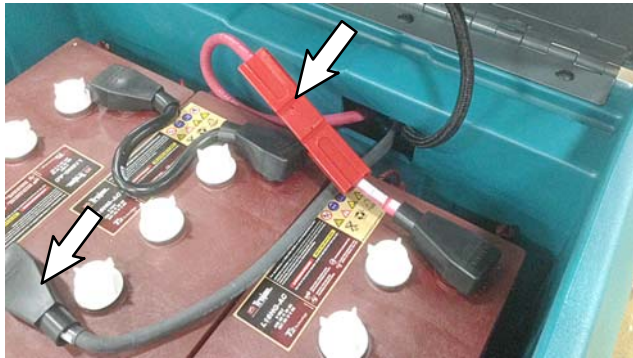

Fig. 1
1. Disconnect battery cables from battery pack (Figure 1).